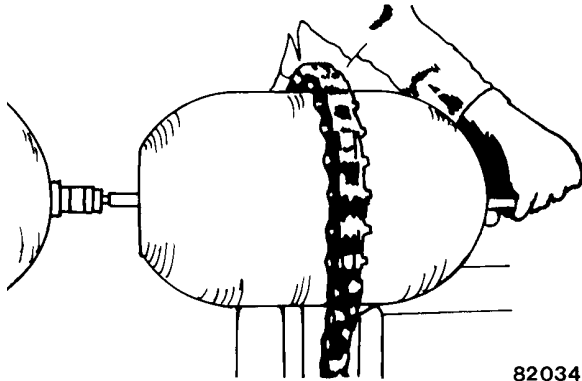

FIGURE 3-19. BLADDER INSTALLATION
5. Pass bladder pull rod through shell oil port and out through valve stem opening. (Refer to Figure 3-19).